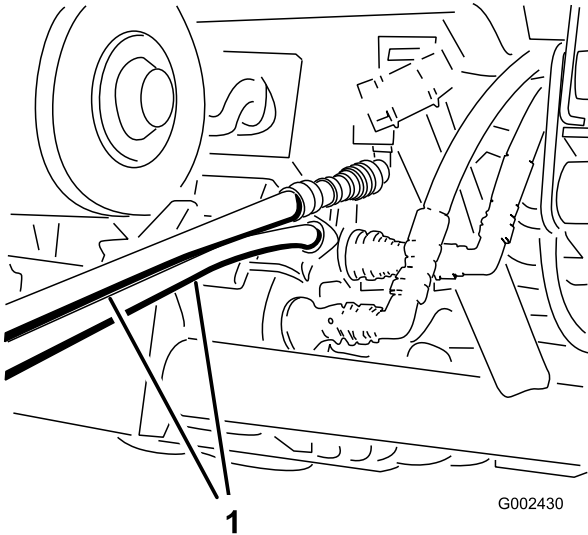

Figure 63
- On the other vehicle, connect the two hoses to the coupler still in the coupler bracket (Connect the top hose to the top coupler and the bottom hose to the bottom coupler (Figure 63). Cap unused fittings.